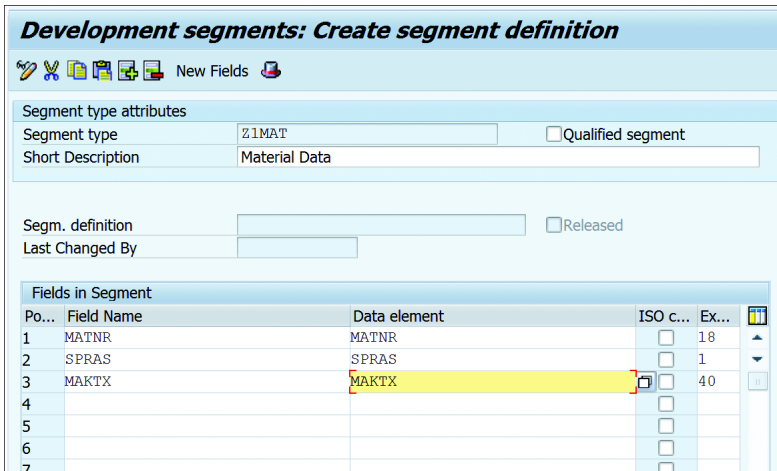

Figure 19.35 Create Segment Definition
2. On the **CREATE SEGMENT DEFINITION** screen, as shown in Figure 19.35, maintain the fields for the segment just like you would maintain the components of a
3. If the segment has a different meaning in different scenarios, then you can select the QUALIFIED SEGMENT checkbox (see Figure 19.35). When this checkbox is set, the meaning of the segment is derived from the first field of the segment.